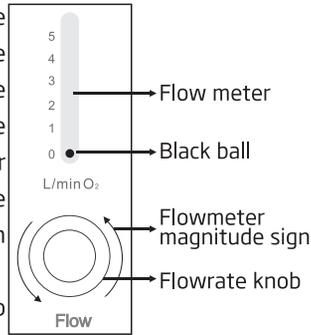

Figure 5
- Turn the flowrate knob to require oxygen need (Reed as centre of the black ball). Turn the knob anticlockwise to increase the flowrate, and clockwise to decrease. Meanwhile, humidifier bottle will have air bubble around the sieve core. Then, oxygen comes from the oxygen outlet. (Figure 5)